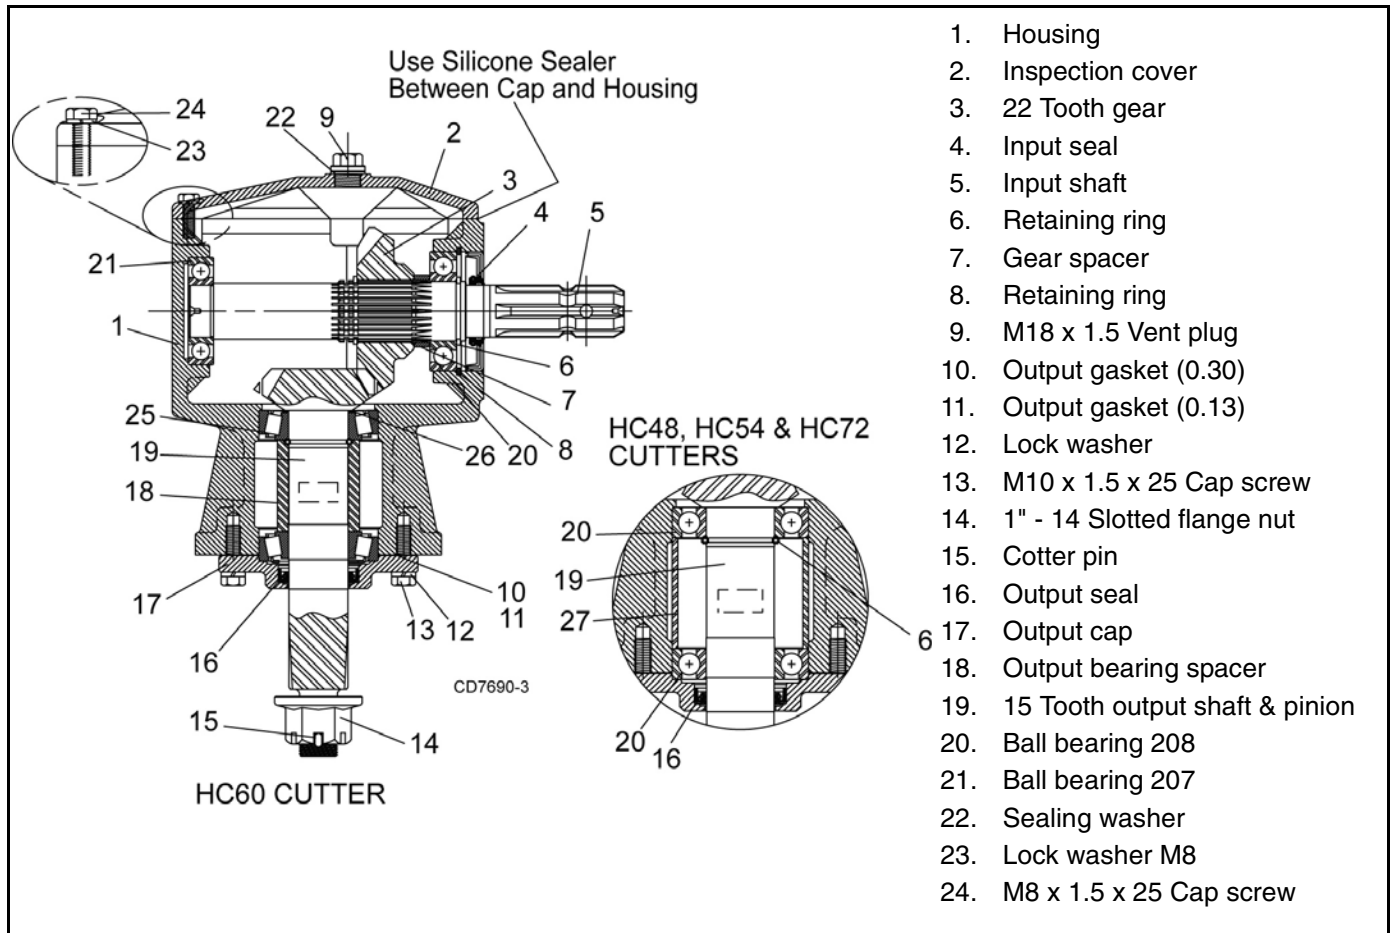

Figure 18. Gearbox Assembly (Cast/Crown Top Gearbox)
GEARBOX REPAIR **(ON CAST/CROWN TOP)** (Figure 18)
Refer to Figure 18.
1. Disconnect and remove the rear driveline from the gearbox. See Figure 18, page 27.
2. Remove vent plug (9) and siphon gear lube from housing through this opening.
4. Remove output cap (17) and output seal (16) by removing four cap screws (13) and washers (12). Replace with new seal (see **Seal Installation, page 23**).